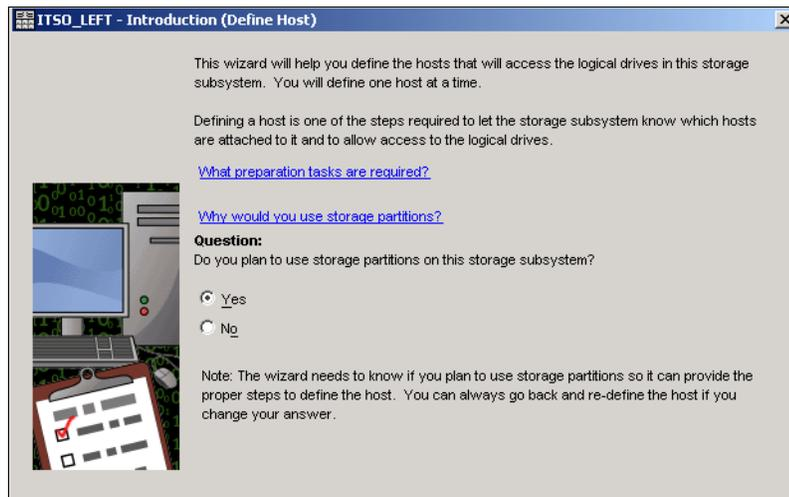

Figure 5-60 Introduction to define host wizard
3. The first window of the wizard is an introduction (Figure 5-60). You are asked whether you plan to use storage partitioning.